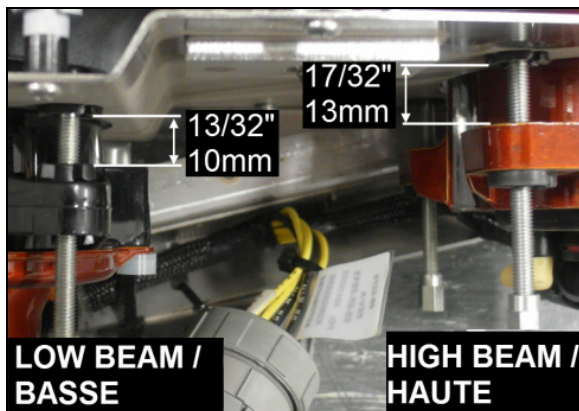

FIGURE 74: HEADLAMP MODULE HEIGHT ADJUSTMENT
9. Adjust the headlamp module height in relation to the support at each threaded rod. Screw threaded rods until height of the headlamp module is 13/32” or 17/32” from the support as shown on Figure 74, depending on which headlamp module is being adjusted